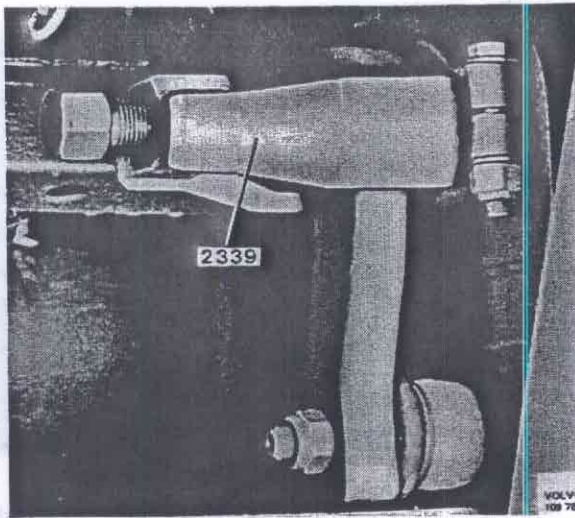

Fig. 64-11. Removing the pitman arm
7. Pull off the pitman arm with puller 2339, Fig. 64-11.